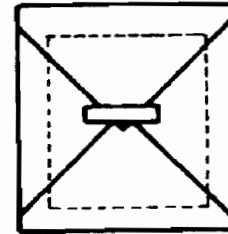

Fig. 3
4. Apply a second wrapping material to the packet produced in Step 2 above (Fig. 3) Tape and autoclave.